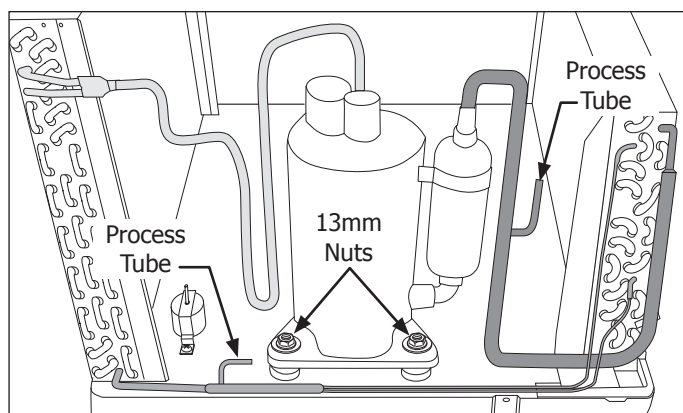

Figure 4-53.
3. Attach an approved self tapping line tap valve to the process tube. Connect refrigerant recovery system to tap valve. Turn on recovery system, open the line tap valve, and allow refrigerant to flow into an approved tank. (See Figure 4-53)